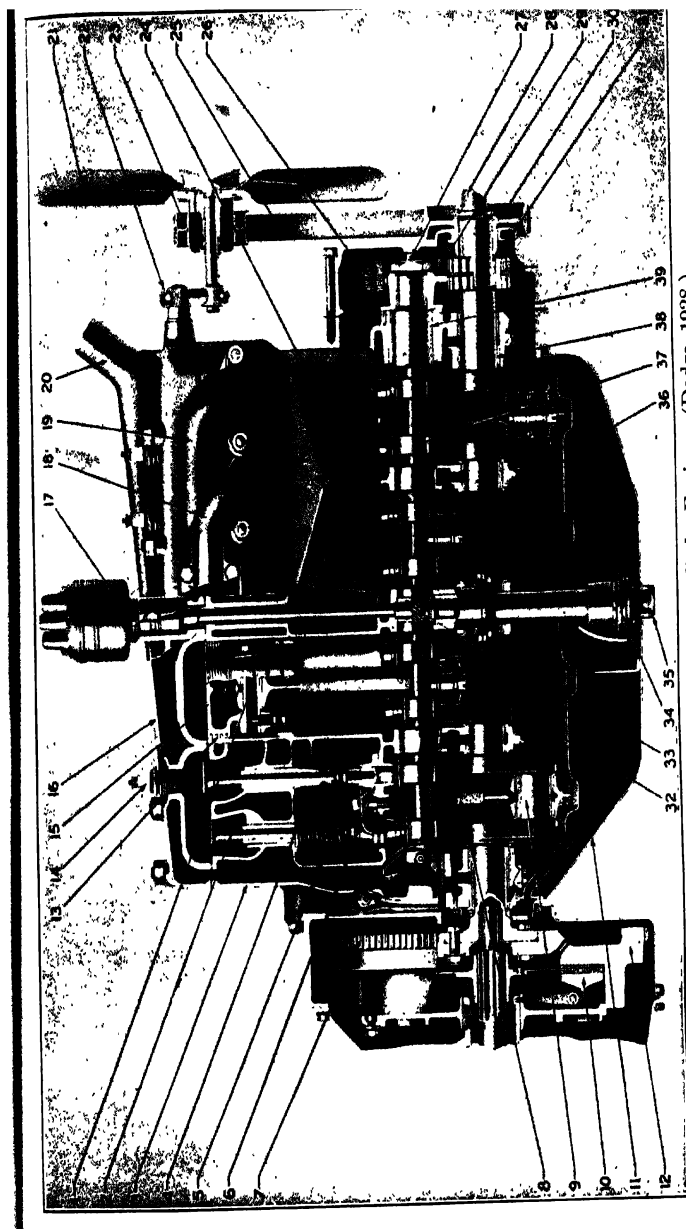

FIG. 80.—Four-stroke-cycle Four-cylinder Engine. (Dodge, 1928.)
- (b) Four-stroke-cycle (see Fig. 80).